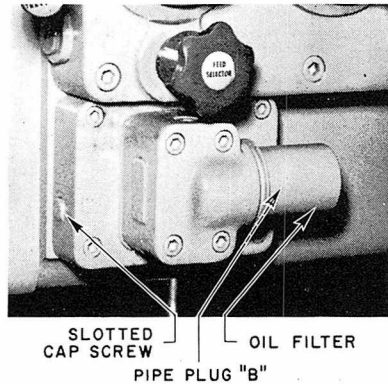

Figure 50A
2. Remove the $\frac{1}{8}$ " pipe plug from the *front side* of the pump, located on the lower left side of the knee (Figure 50A), and insert a 500 p.s.i. pressure gage.
4. The relief valve which controls the oil pressure in the knee is located on the rear edge of the pump (Figure 50A).
Note—To maintain the proper cleanliness of oil in the hydraulic system, we recommend replacing the oil filter, Part No. 121486, every two months or more often if required. (Figure 50A). At the same time the magnetic collector should be removed and wiped clean.